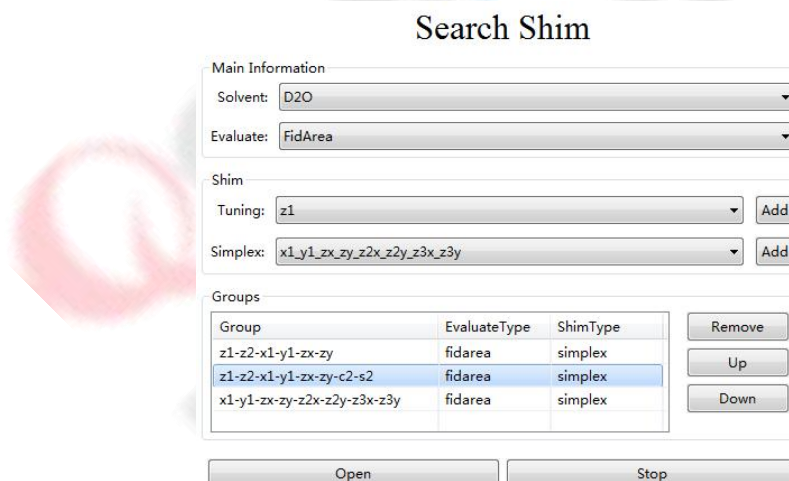
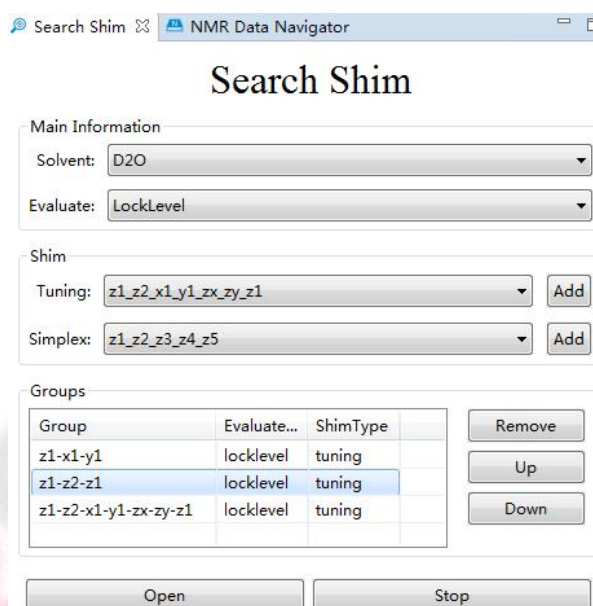

Figure 2.19 Simplex shimming with reference to FIDArea
Figure 2.20 Tuning shimming with reference to Locklevel
- (5) You can continue to add shim coils combinations to the search list during the shimming process, and change the order by clicking **Remove**, **Up** and **Down** buttons. The shimming process can be interrupted any time by clicking **Stop** button (Figure 2.19).
- (1) Open the **SearchShim** window as described above (Figure 2.19).
- (2) In the drop-down menu next to **Solvent**, select correct one.
- (3) Click the drop-down menu next to **Evaluate** and select **LockLevel**.
- (4) In the Lock tab (see 2.6 Locking), make sure that the check boxes for **Show** and **Lock On** are selected. Look at the lock level and check if it is stable (fluctuation small than 0.1, e.g. between 24.4\24.5\24.6). If not, slightly lower the lock power.
- (5) Select a combination of shim coils in the drop-down menu next to **Tuning**, click **Add** to put into the searching list in Groups to immediately start search shim. You can open the Lock window to check the real time result by lock level.
- (6) You can continue to add shim coils combinations to the search list during the shimming process, and change the order by clicking **Remove**, **Up** and **Down** buttons. The shimming process can be interrupted any time by clicking **Stop** button (Figure 2.20).